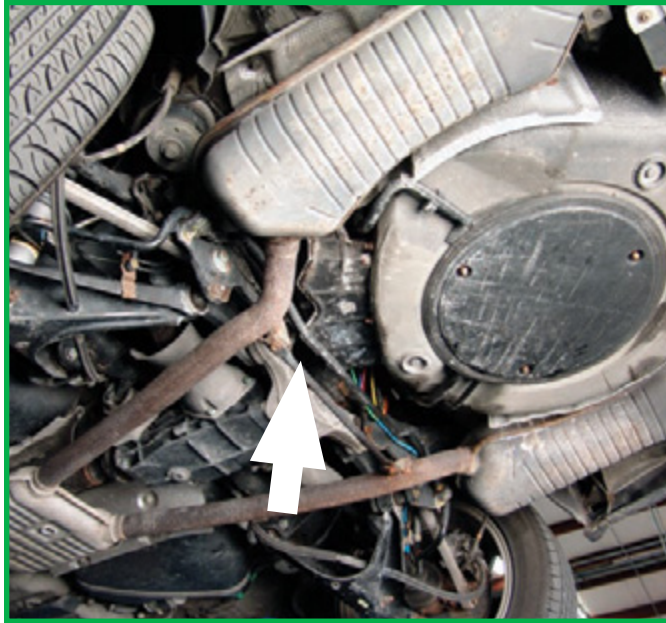

FIGURE 1
1. The compressor is located in front of the spare tire well underneath the vehicle. (Figure 1)